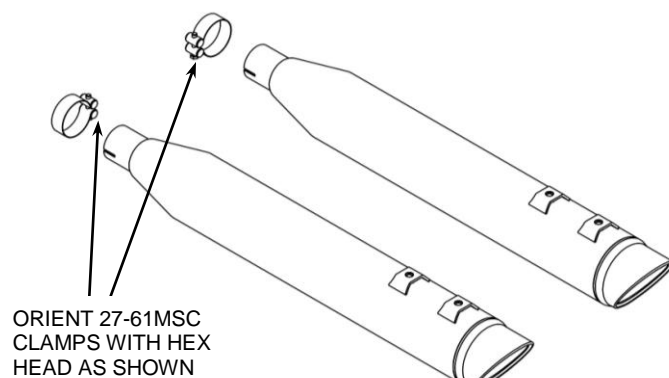

FIGURE 1
2. Position the supplied 27-61MSC clamps with the hex head facing the ground as shown in **Figure 1** and slide them onto the slip-on mufflers.